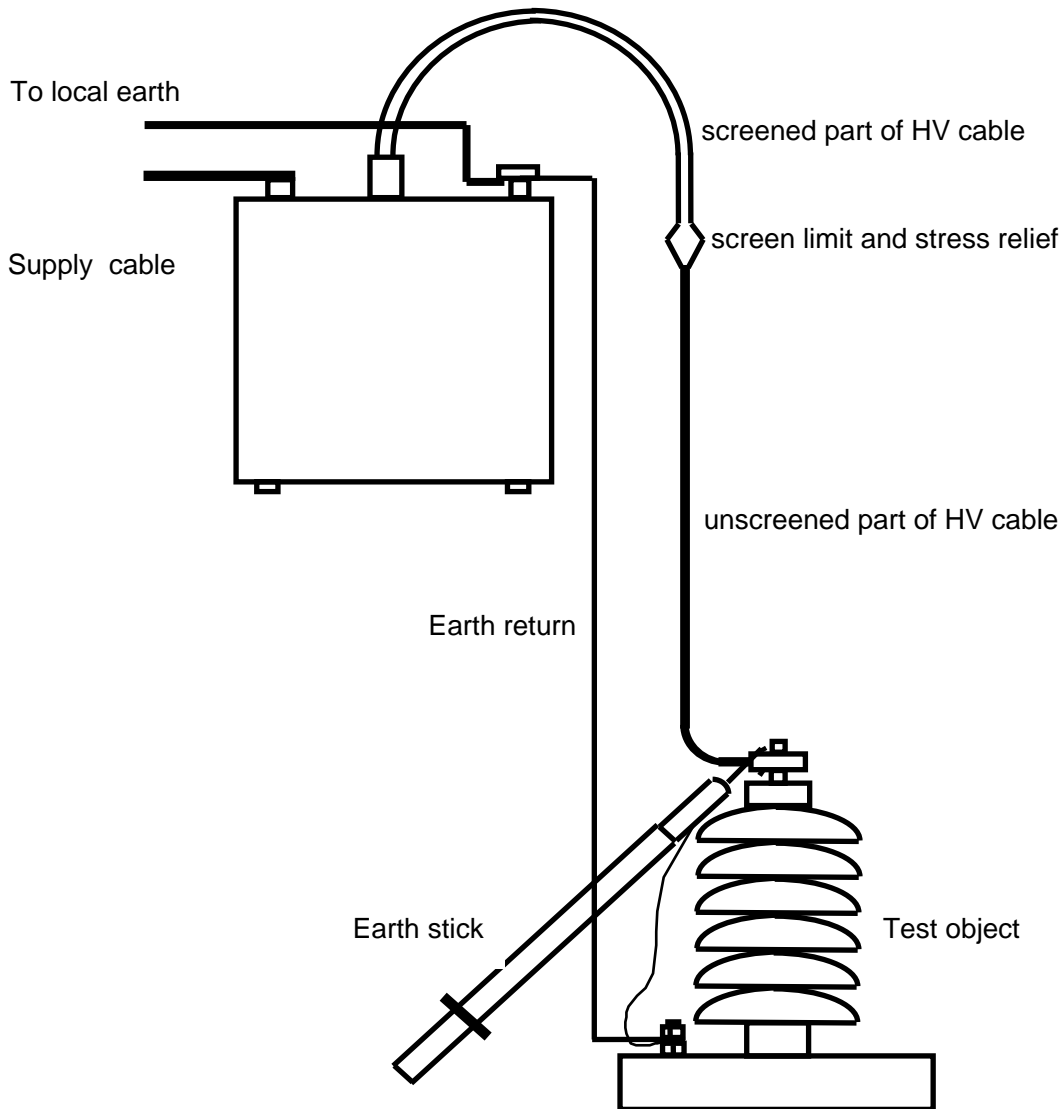

Figure 1 Connection showing earthed test object – before start of test
2.2 Connections (See Figure 1)